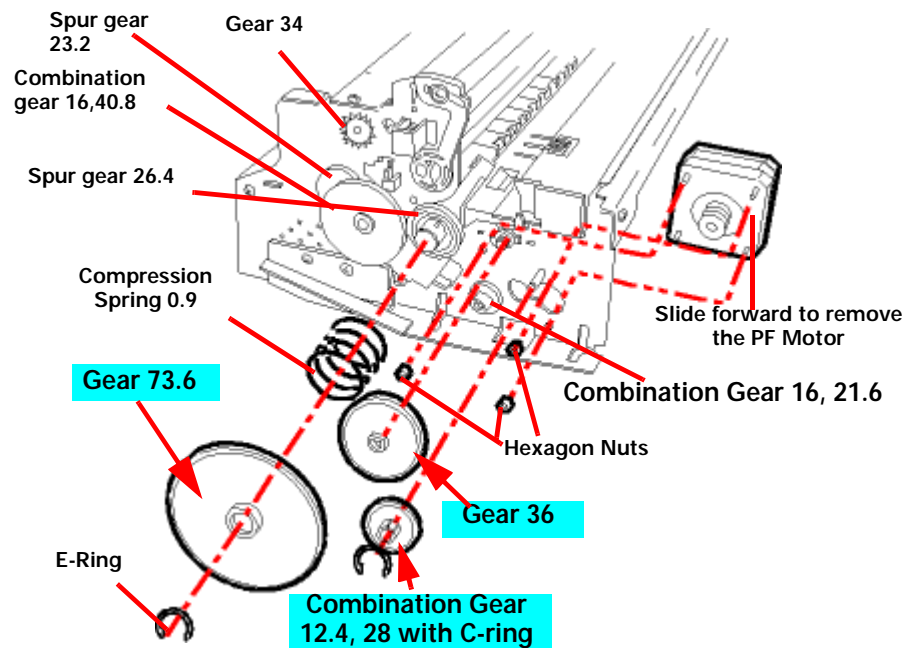

Figure 4-8. Removing the PF Motor Assembly
3. Remove an E-ring, a C-ring, and the following gears. (See Figure 4-8, "Removing the PF Motor Assembly" below for reference.)